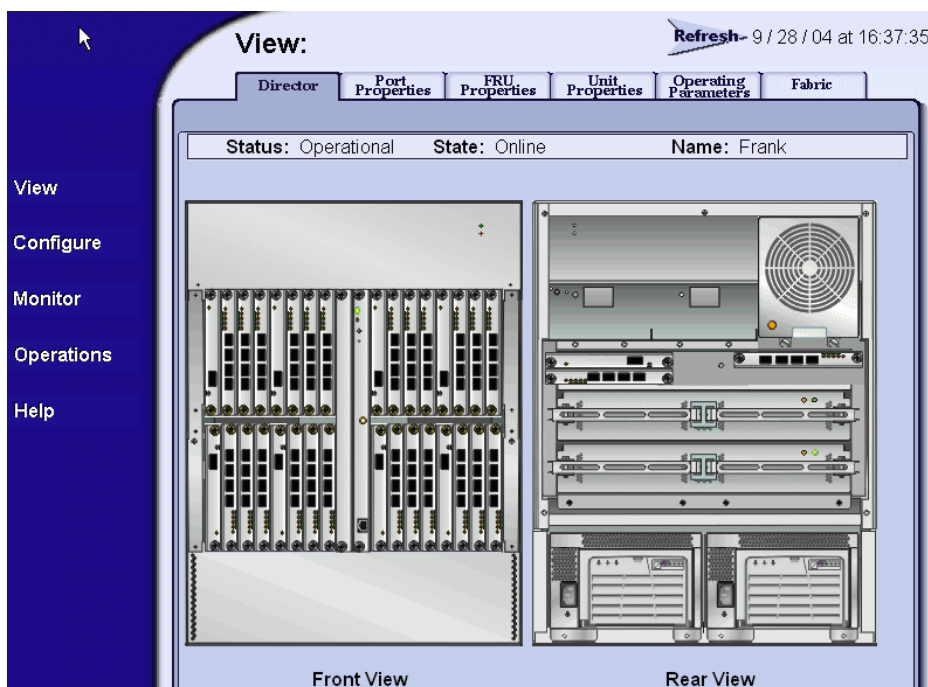

Figure 2-7 View Panel (Director Page)
- d. Click OK. The SANpilot interface opens with the *View* panel open and the *Director* page displayed (Figure 2-7).